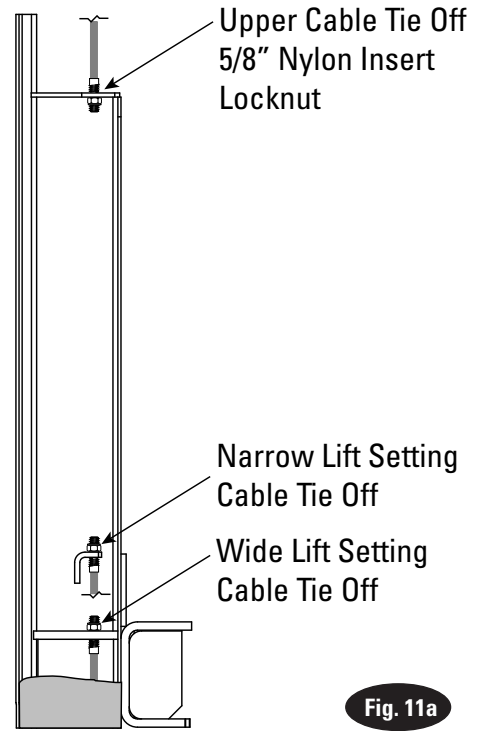
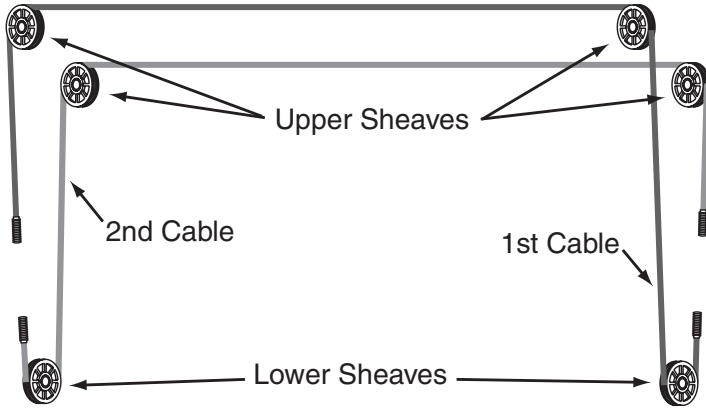

Fig. 11a
Fig. 11
- A) Refer to Fig. 11 for the general cable arrangement. First, run a cable end up through the small hole in the lower tie-off plate, Fig. 11a.
- D) Pull the cable back down, Fig. 11a
- E) Run cable around the lower sheave, then up and around overhead sheave and across and down to the opposite carriage, Fig. 11.